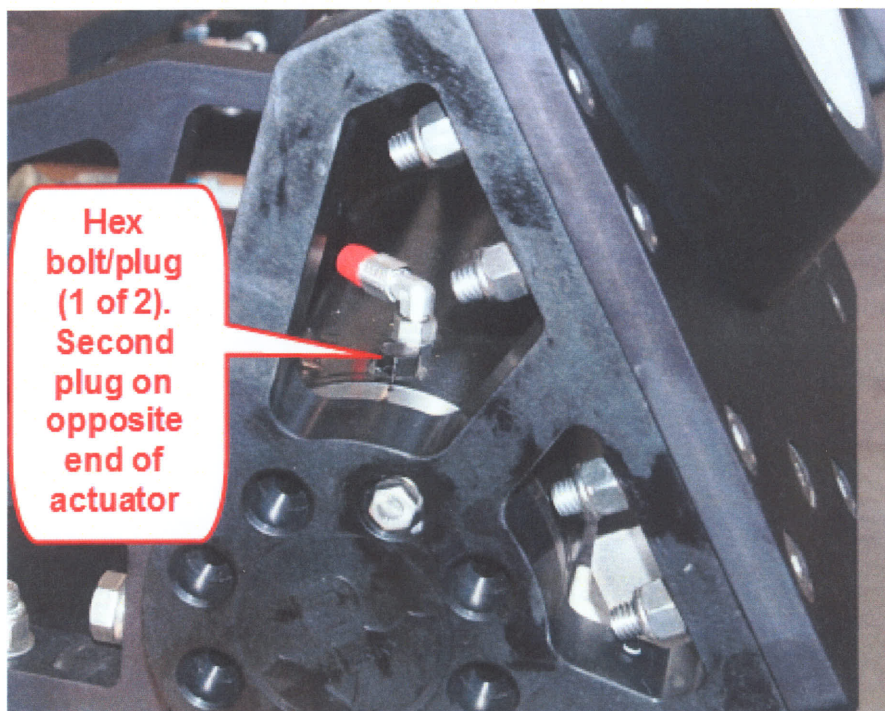

Fig. 8
1. Remove two plugs located on top of the actuator (Figure 8).